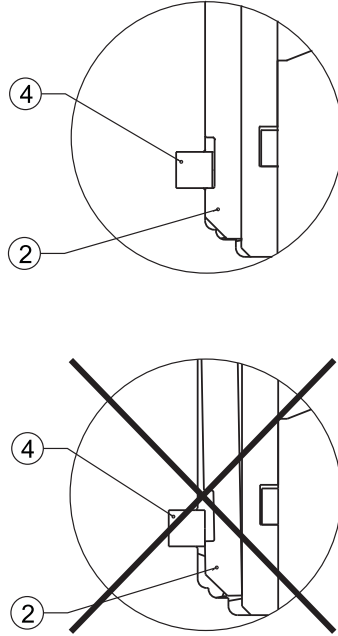

Fig. 6
6. **Make sure that the guiding notch of the profile knife leans firmly at the corresponding stop edge of the fitted key (4) of the knife seat** (s. fig. 6).